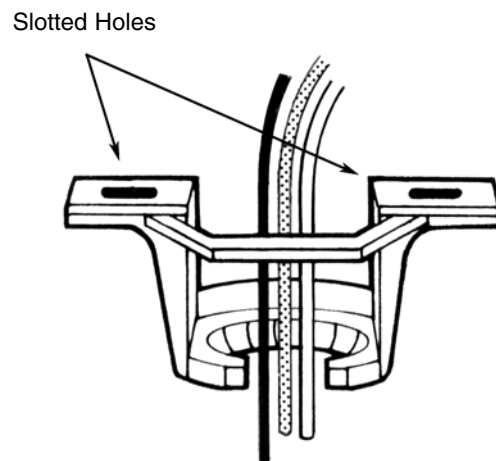

Fig. 3
- ❖ The mounting bracket has slotted holes to enable it to move sideways for proper alignment. Make sure the mounting bracket is centered over the electrical junction box and that it is securely attached (*see figure 3*).